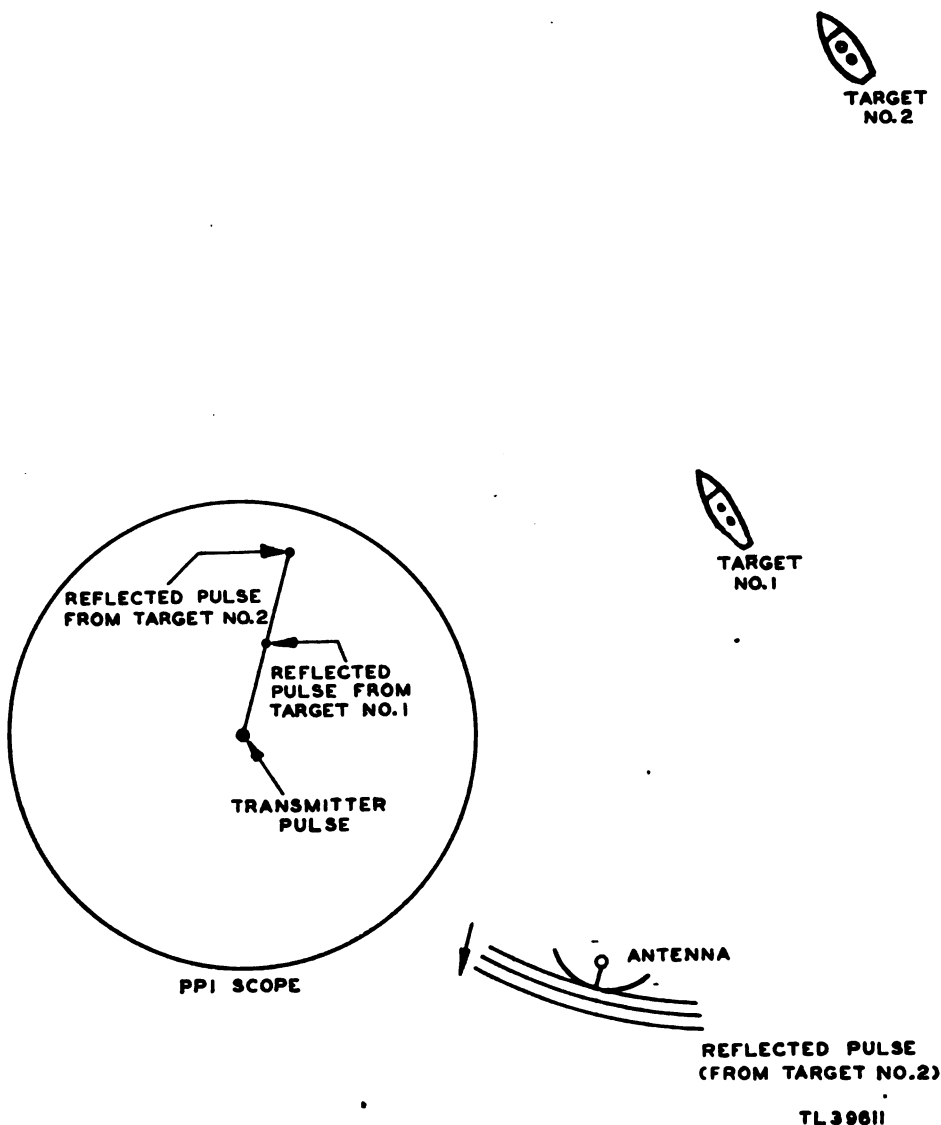

Figure 5. Range indication of two targets.
(2) The single sweep trace described in the above illustration persists on the oscilloscope for only a short time. It is therefore necessary to repeat the pulse transmission and the sweep trace periodically. If the two operations are correctly synchronized, signals returned from a target will be superimposed on each other by successive sweep traces. The echo signals from all targets will be shown on the oscilloscope (fig. 5) in their proper range positions.